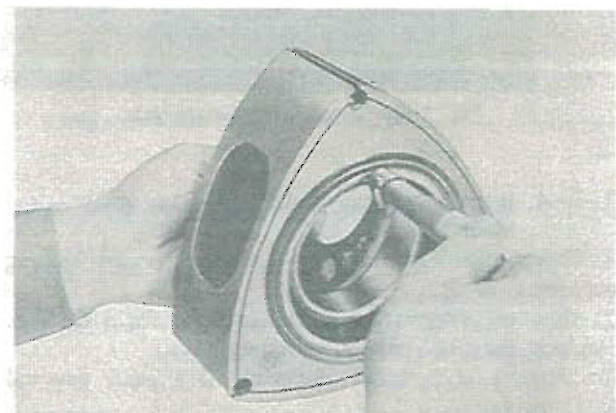

Fig. 1-40 Checking rotor width
5. Check the gap between the side housing and the rotor by measuring the rotor housing width and rotor width. The rotor width should be measured at 3 points as shown in Fig. 1-40.